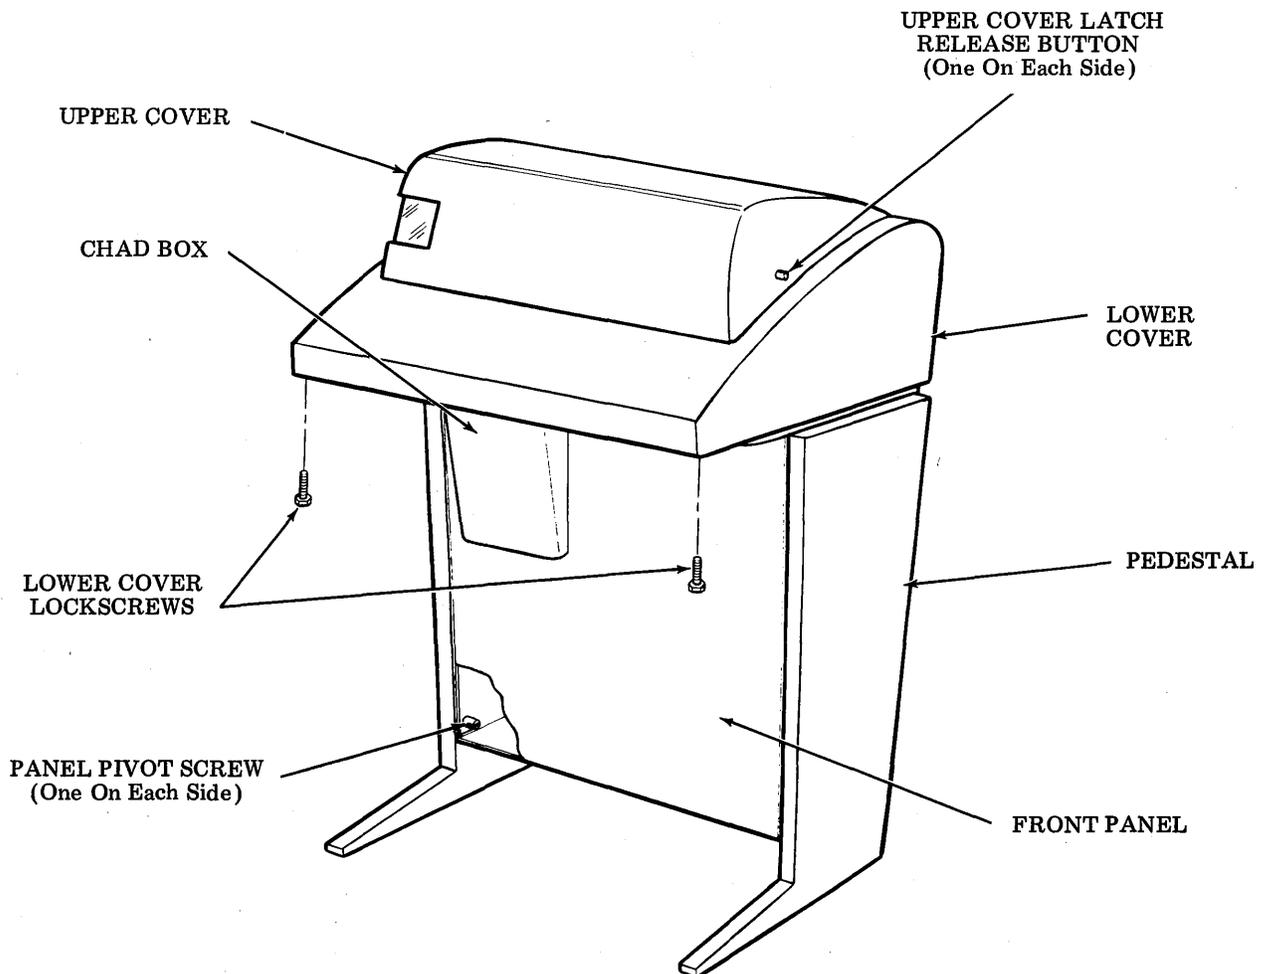

Figure 2 - Identification and Location of Cabinet Parts
- (a) Remove the lower cover lock screw from each front corner of the cabinet (Figure 2). Do not discard the lock screws.
2.04 If the chad box (Figure 2) is mounted on the panel, remove the chad box by raising its right edge and sliding it out to the right. Then remove the front panel using the following procedure: